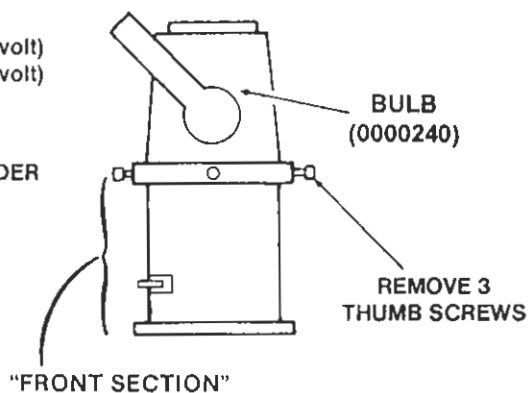

FIGURE 2
- b. While securely holding the front section, remove the 3 thumb screws from the exterior of light (see figure 2).